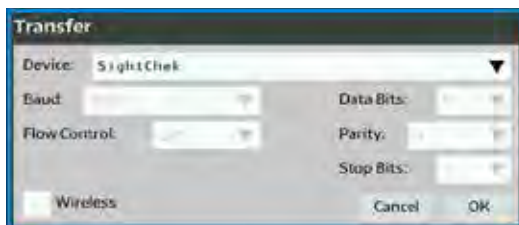

Figure IS-22 Transfer Setting for Sending Data from the previous SightChek
4. Locate the Transfer section of the Communication screen and set the parameters. Refer to Figure IS-22.